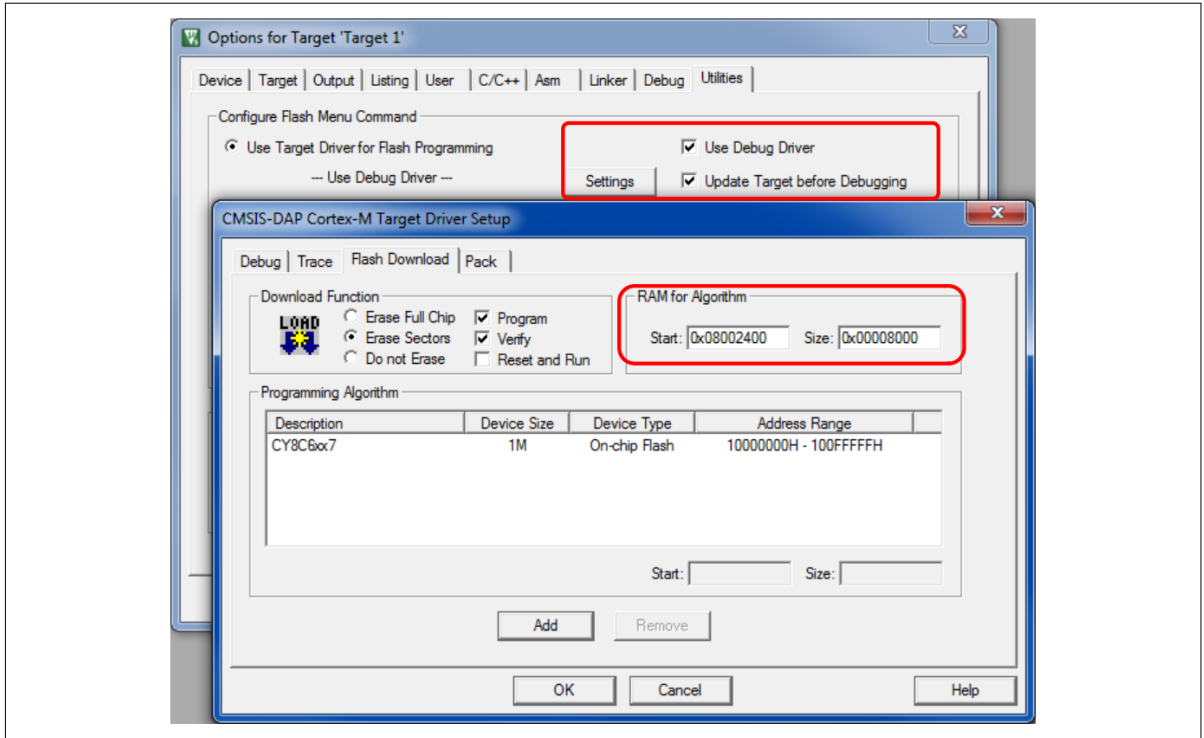

Figure 27 Utilities options for CM4 project
- In the **Options** dialog, **Utilities** tab, confirm that **Update Target before Debugging** is checked, as Figure 27 shows. Set the RAM for Algorithm values as indicated. Checking **Reset and Run** is optional but convenient
Build the projects in sequence; build the CM0+ project first. Note that µVision has a batch build feature to automate the process. After building is successfully completed, right-click the BlinkyM4 project and set it as the active project. Then test your build options by (1) erasing flash (**Flash > Erase**), and (2) downloading the project (**Flash > Download**) and confirming correct operation. If you did not select Reset and Run (see Figure 27), you must press the kit reset button (RST / SW1) to start operation